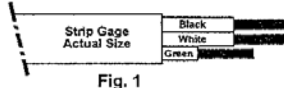

Fig. 1
1. Remove insulation from cable and conductors as shown in Fig. 1.